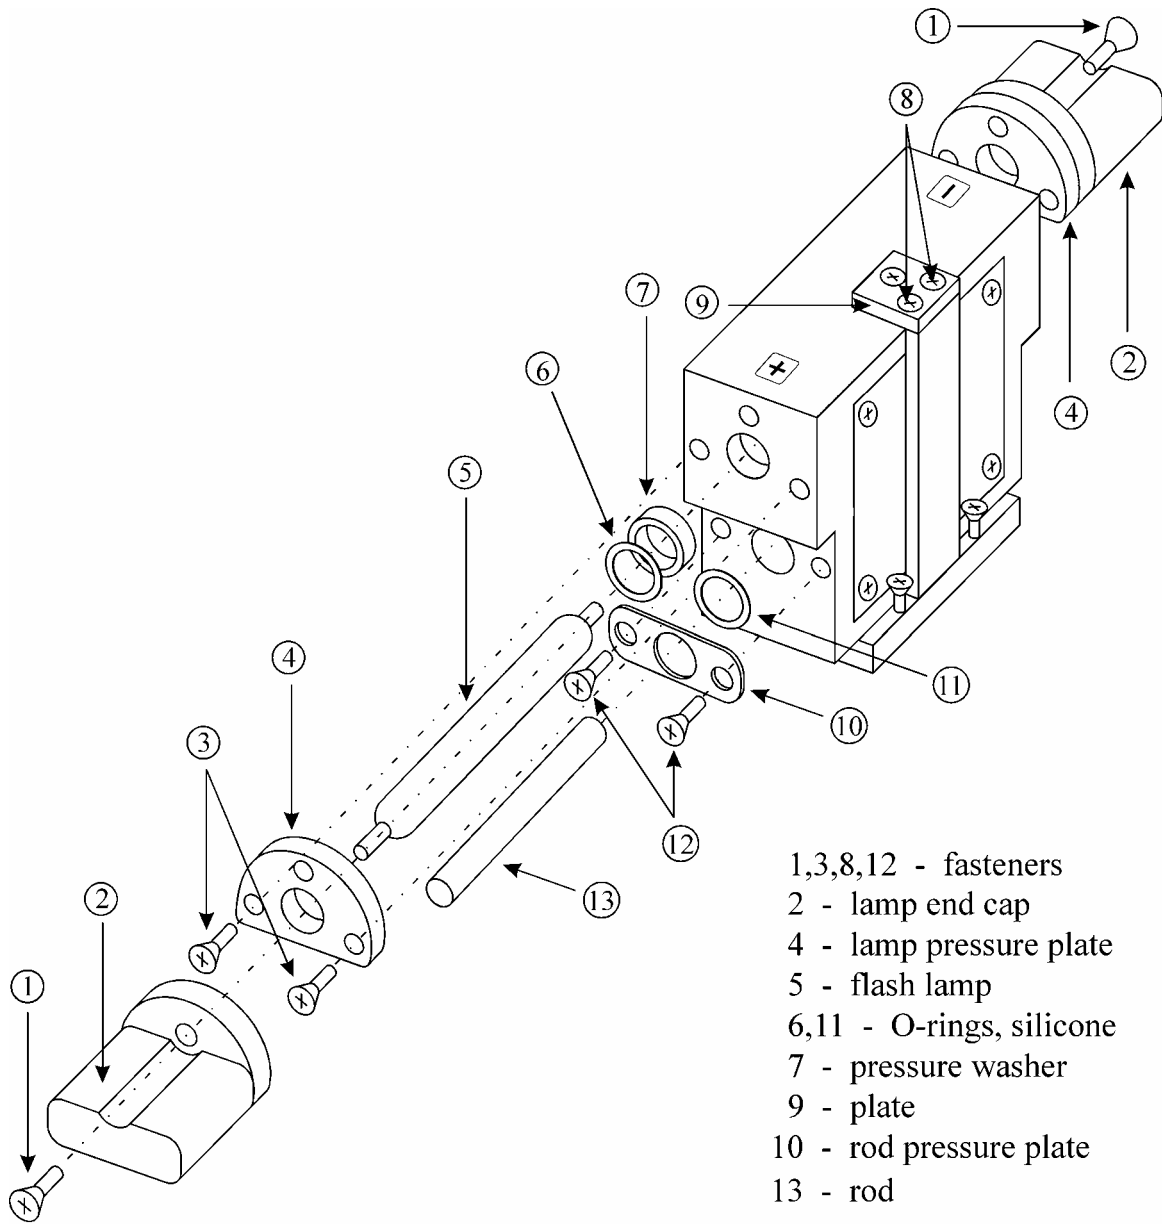

Fig.9. Layout of laser pump chamber
Layout of SL335 laser amplifier pump chamber is shown in Fig.9.
4. From both sides of pump chamber, release the screws ① fixing the lamp end caps (see Fig.9).
5. Carefully, slightly rotating to and fro around the lamp axis, take the caps ② off.